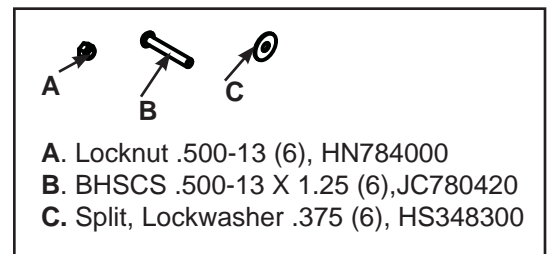

Figure 1
- B. Remove hardware pack and verify contents. See Figure 1.